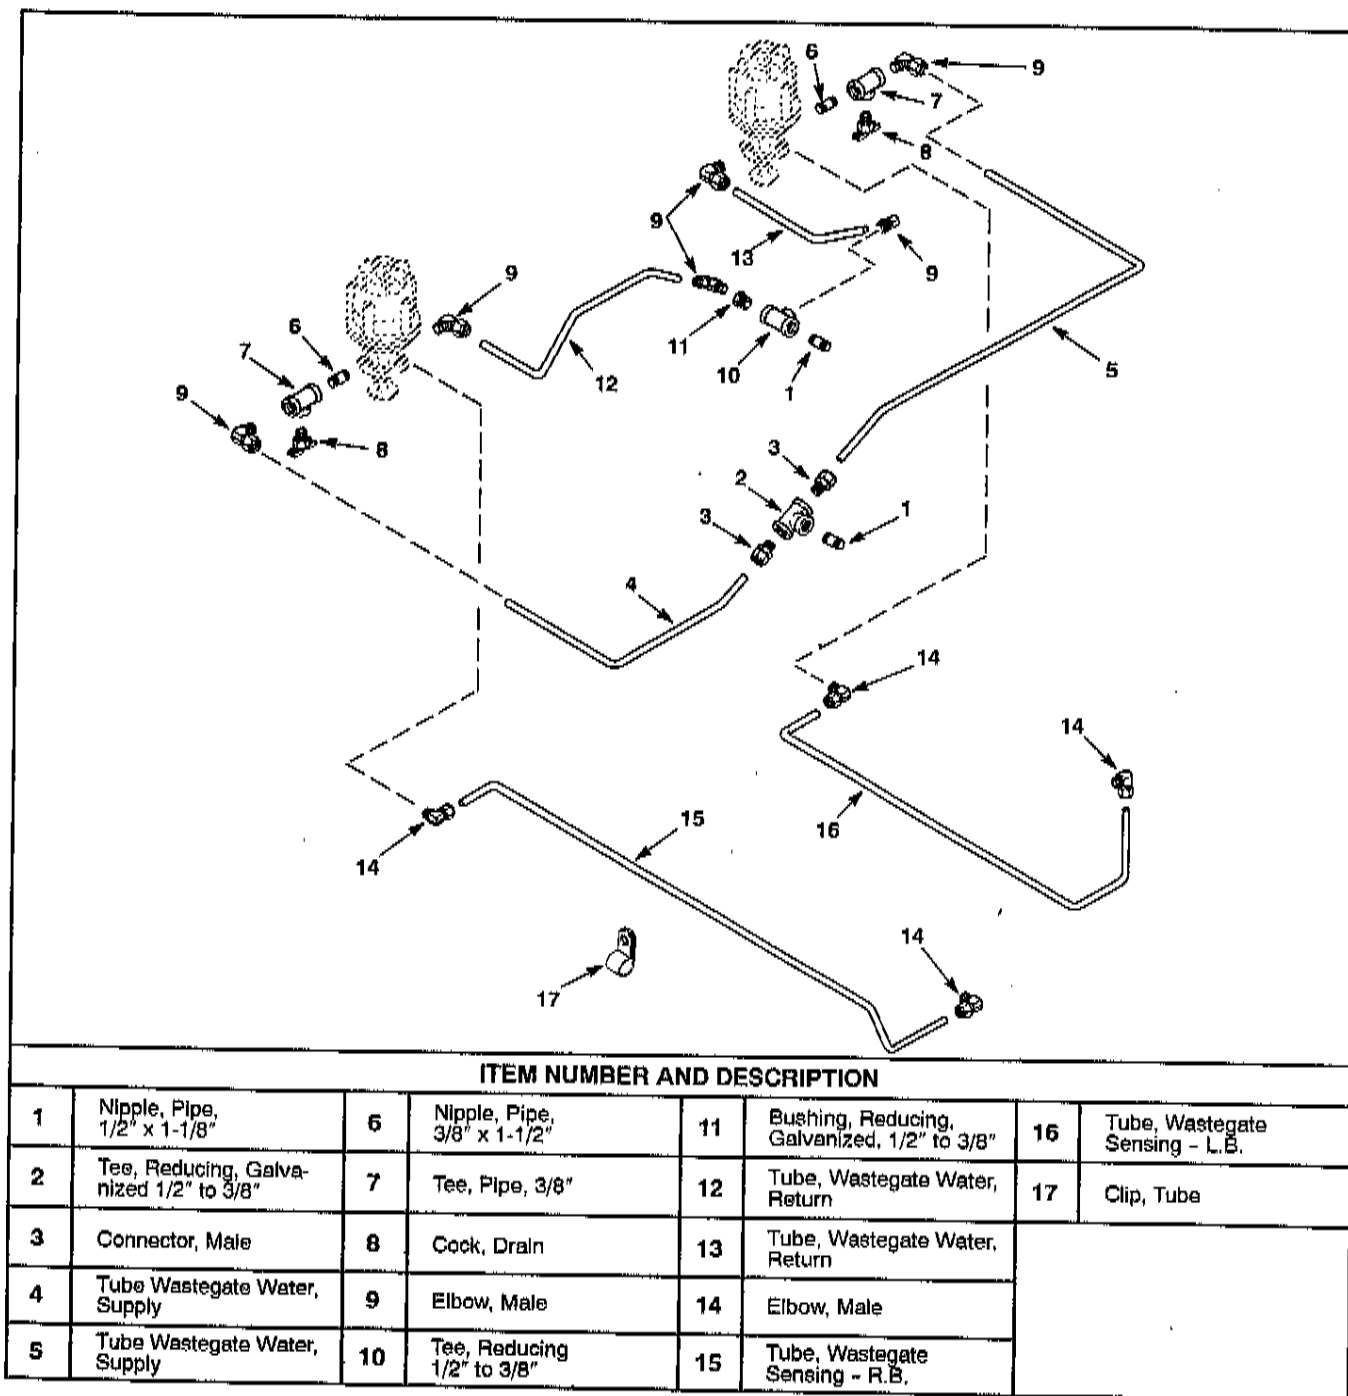

Figure 5.35-23. Wastegate Water Connections
1. If removed, apply Perma Loc® heavy duty pipe sealant to threads of fittings (see Figure 5.35-23).